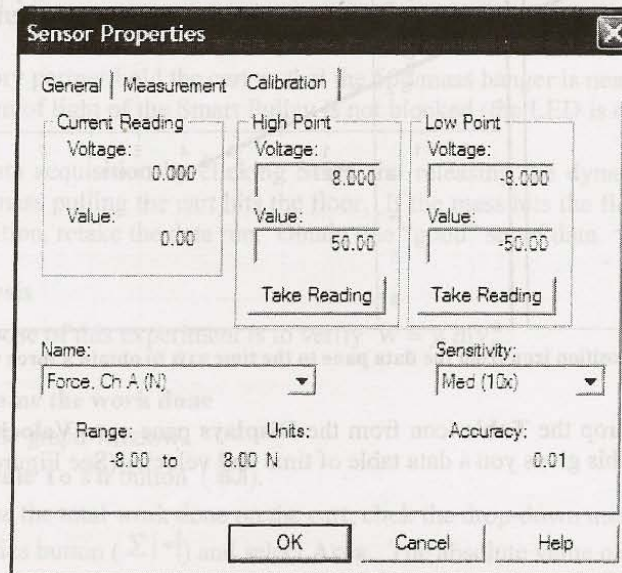

Figure 6.4-3: Force sensor calibration.
- Click the calibration tab (see Figure 6.4-3).